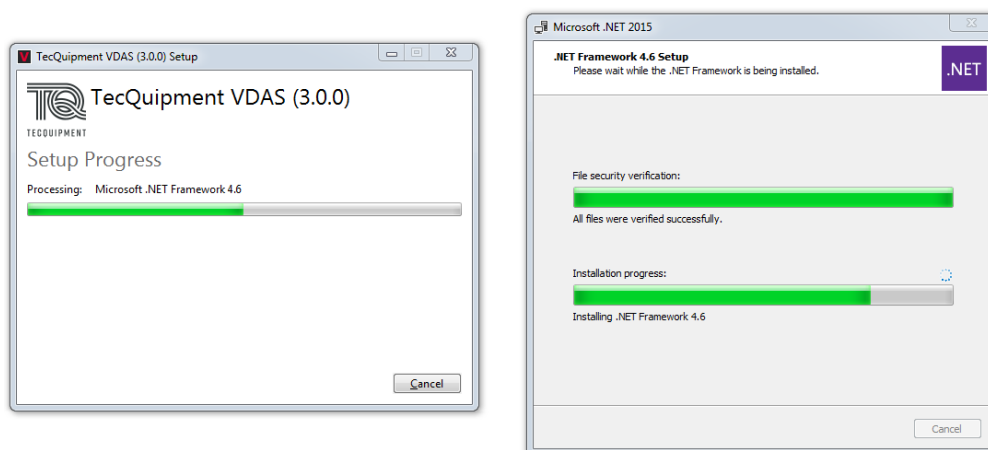

Figure 19 Microsoft .NET Framework Setup
5. The Dialogue Boxes will appear as shown in Figure 19. The .NET Framework may take several minutes to install.